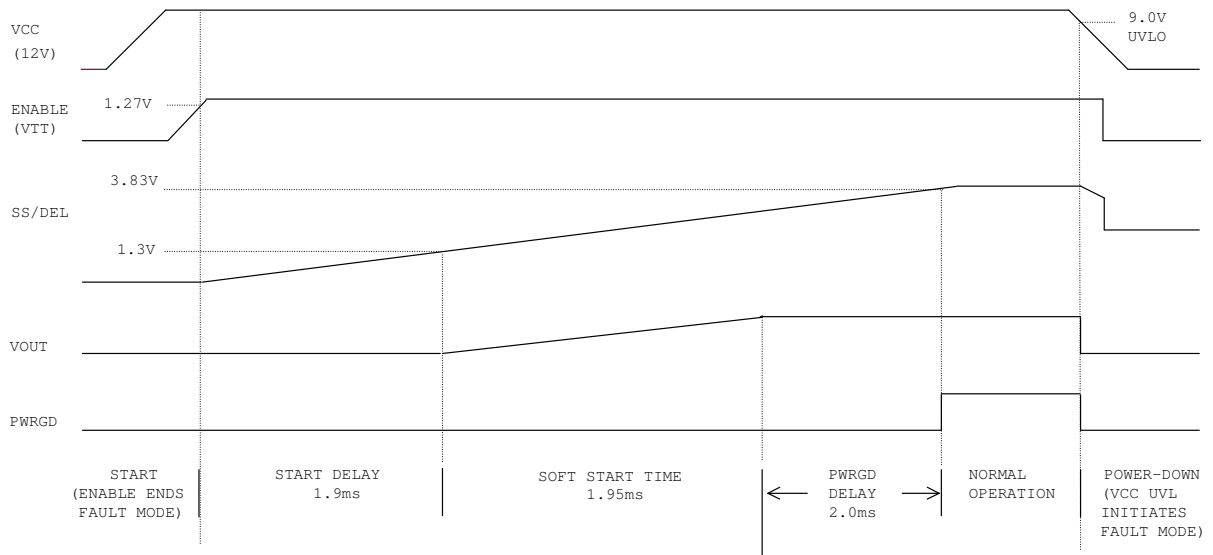

Figure 10 – Start-up Waveforms
The IR3082A has a programmable soft-start function to limit the surge current during the converter start-up. A capacitor connected between the SS/DEL and LGND pins controls soft start as well as over-current protection delay and hiccup mode timing. A charge current of 55 μ A and discharge current of 5 μ A control the up slope and down slope of the voltage at the SS/DEL pin respectively. Soft start-up waveforms are shown in Figure 10.
The SS/DEL pin voltage controls the slew rate of the converter output voltage, as shown in Figure 10. After the ENABLE pin voltage rises above 1.27V, there is a soft-start delay time tSSDEL, after which the error amplifier output is released to allow the soft start. The soft start time tss represents the time during which the output voltage rises from zero to Vo. tss can be programmed by an external capacitor, which is determined by Equation (1).